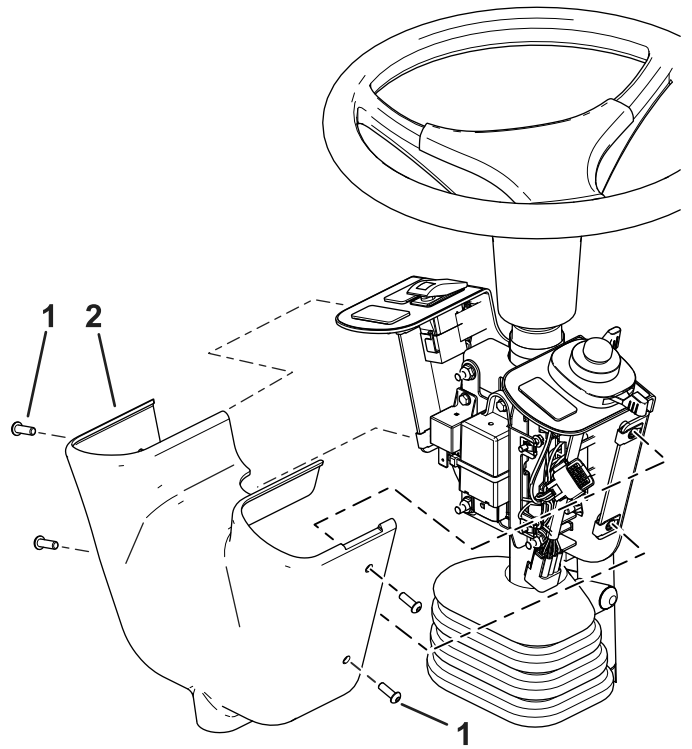

Figure 6
5. Remove the control cover (Figure 6).